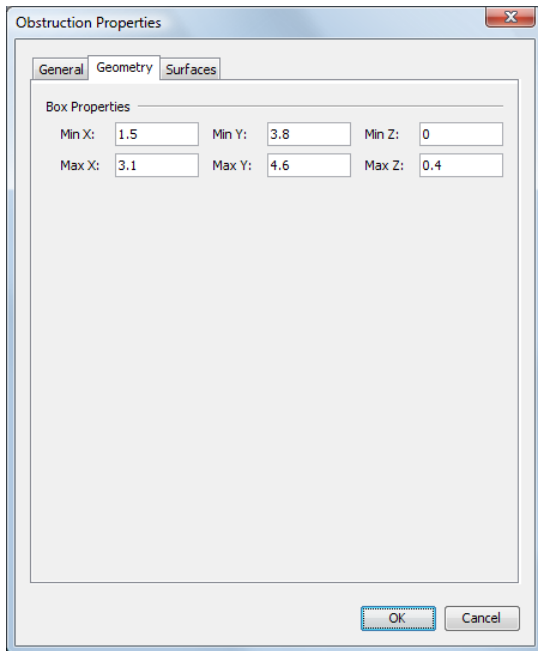

Figure 5.6. Input for the couch base
4. Click on the **Geometry** tab. In the **Box Properties** boxes, enter the values in Table 5.1, see Figure 5.6.